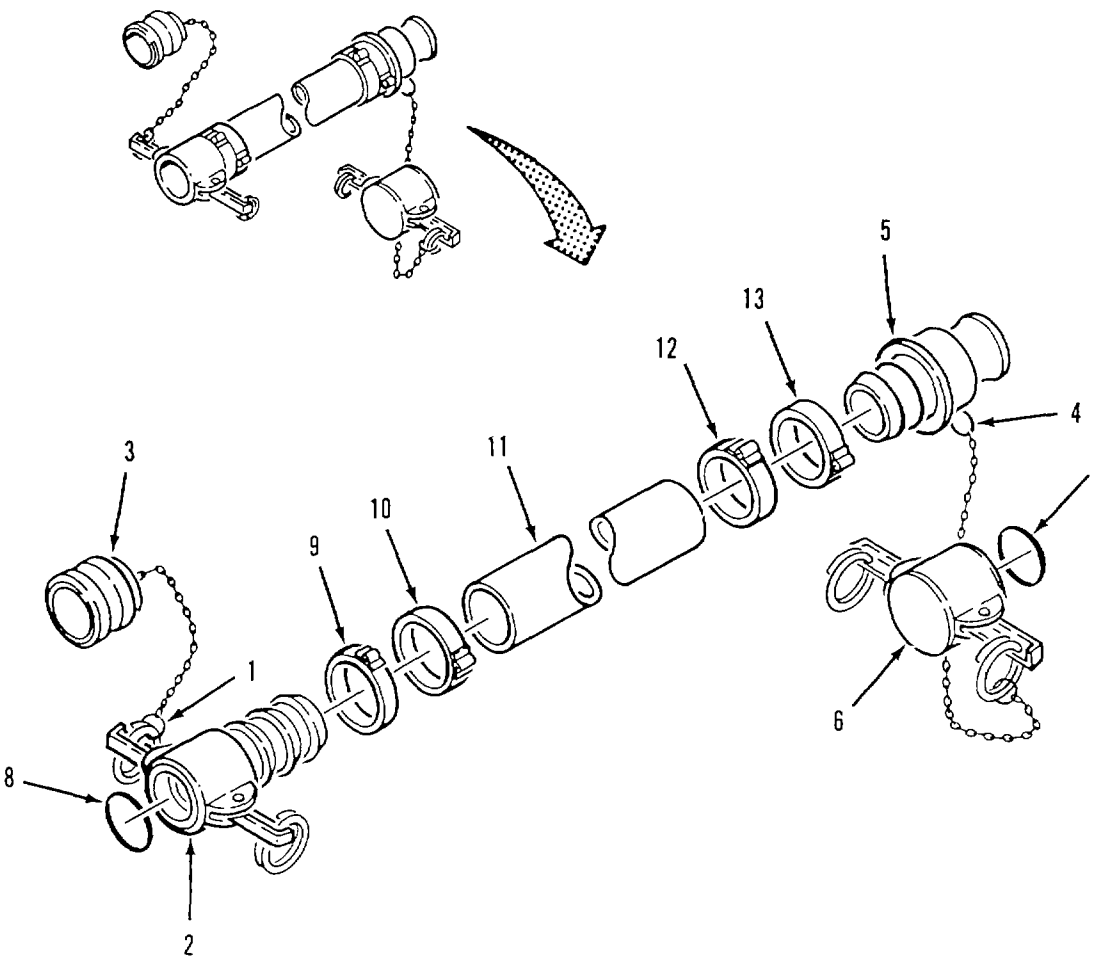

Figure 4-2. Discharge and Suction Hose Disassembly.
- a. Disassembly. Refer to figure 4-2.
- (1) Disconnect split ring (1) from female coupling (2) and remove dust plug (3).
- (2) Disconnect split ring (4) from male coupling (5) and remove dust cap (6).
- (3) Remove gasket (7) from dust cap (6)
- (4) Remove gasket (8) from female coupling (2).
- (5) Cut strapping (clamps) (9 and 10) from hose (1). Pull female coupling (2) from hose.
- (6) Cut strapping (clamps) (12 and 13) from hose (11). Pull male coupling (5) from hose
- c. Inspection. Refer to figure 4-2
- (1) Inspect female coupling (2) and dust cap (6) for cracks, corrosion, and damaged locking arms.
- (2) Inspect male coupling (5) and dust plug (3) for cracks and corrosion.
- (3) Inspect hose (11) for cuts, tears, punctures, delamination.
- (1) Push male coupling (5, figure 4-2) and female coupling (2) into hose (11).